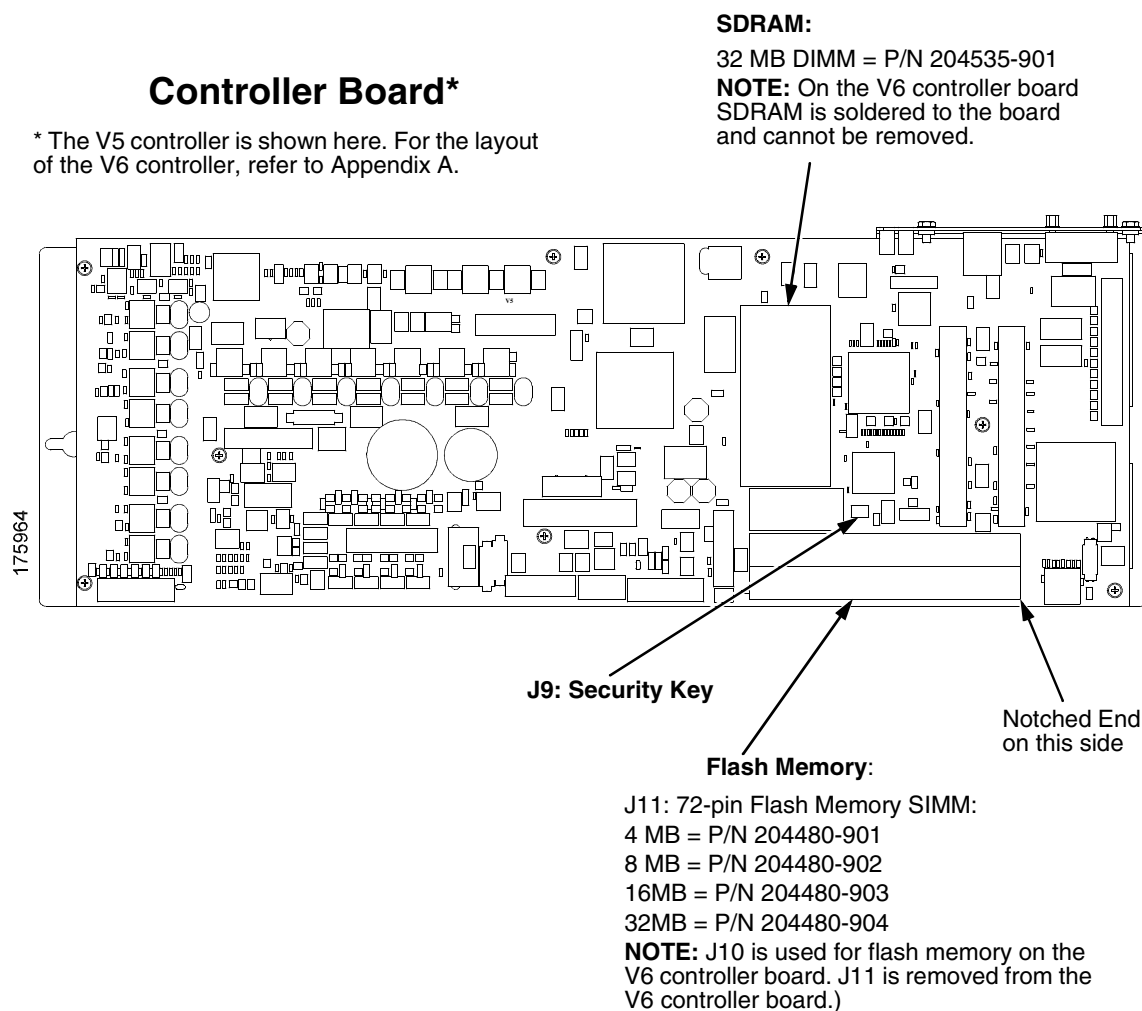

Figure 33. Memory Modules and Security Key
5. To remove the flash SIMM or SDRAM DIMM (V5 controller only), gently open the side locks, angle the memory module upward, and remove it from the socket. (SDRAM is soldered on V6 controllers and cannot be removed.) (See Figure 33, page 228.)
6. If you need to remove the security key, gently lift the locking tab on the top side of controller board connector J9 enough to release the key, then lift and remove the security key. (See Figure 33, page 228.)
2. If you removed the security key, position it on controller board connector J9 so that the lock indentation is on the same side as the locking tab on connector J9. Gently press the security key down onto the pins until the locking tab engages the lock indentation and locks the key in place. (See Figure 33.)
3. Insert the memory module at a 45 degree angle into the correct socket (see Figure 33) on the controller board:
- a. Insert the flash SIMM in socket J11 on the controller board at a 45 degree angle. Position the flash SIMM with the notched end toward the right side of the controller board. Press the SIMM gently into the socket until the edge connectors are seated, then press the SIMM downward until the side latches lock the SIMM in place. (See Figure 33, page 228.)
- b. V5 controller only: Position the SDRAM DIMM in socket J14 with the component side upward. Press the DIMM gently into the socket until the edge connectors are seated, then press the DIMM downward until the side latches lock it in place. (NOTE: SDRAM is soldered on the V6 controller board and cannot be removed.) (See Figure 33 below.)